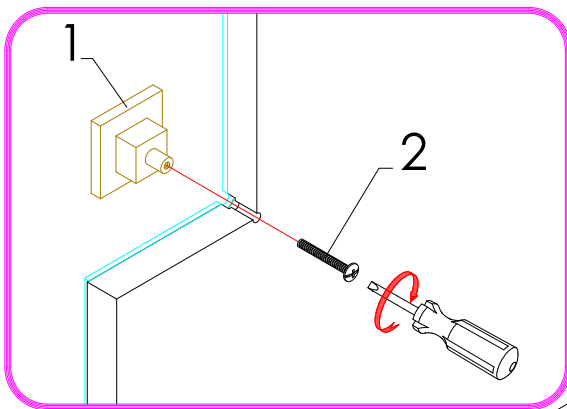

FIGURE 01
1. Attach handle (1). Insert the the screw (2) from the back side of the door and tighten them with screw driver. See **FIGURE 01**.